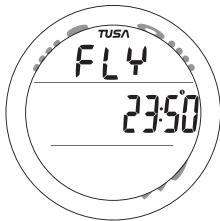
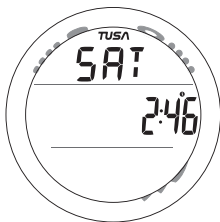

Fig. 96 - TIME TO FLY
Fig. 97 - DSAT TIME
- A (< 2 sec), while viewing the first Plan screen, to access Time to Fly (Fig. 96), then again to access Time to Desaturate (Fig. 97).